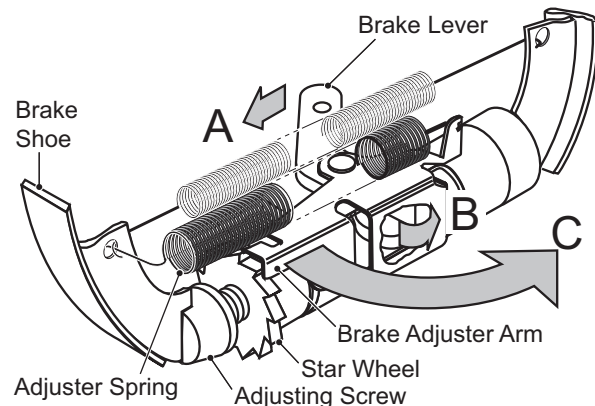

Fig. 2 Automatic Adjuster Mechanism
When the brake pedal is applied, the brake lever moves toward the front of the vehicle (A) (Ref Fig. 2).